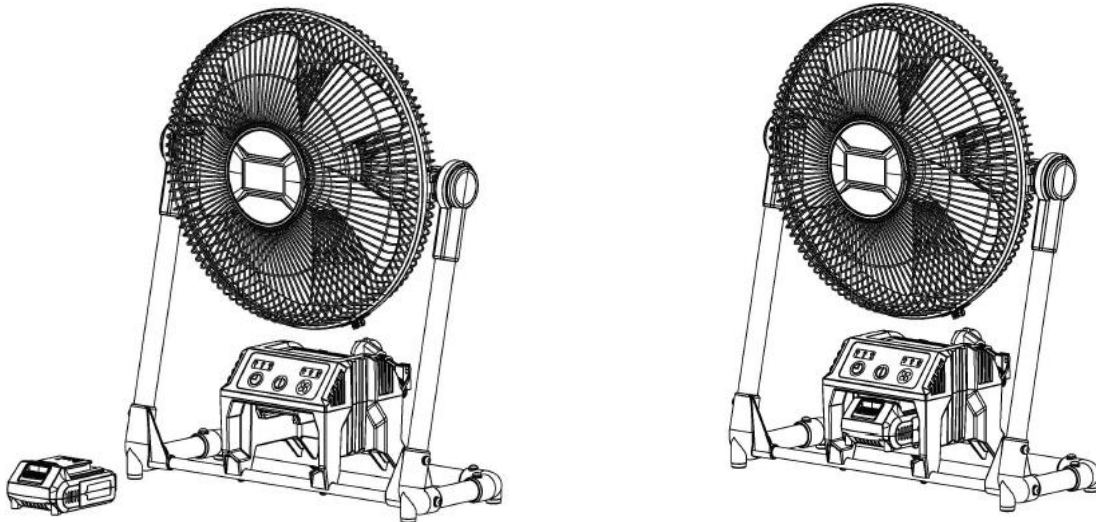

Fig. 2
- To install the battery pack, insert it into the battery compartment on the fan. (See Fig. 2)